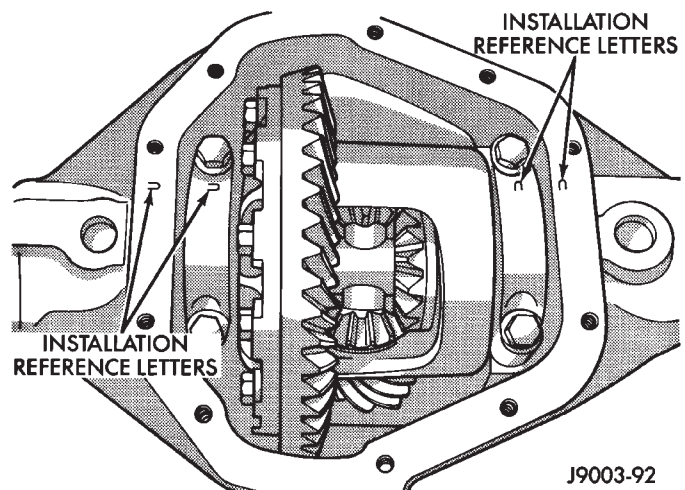
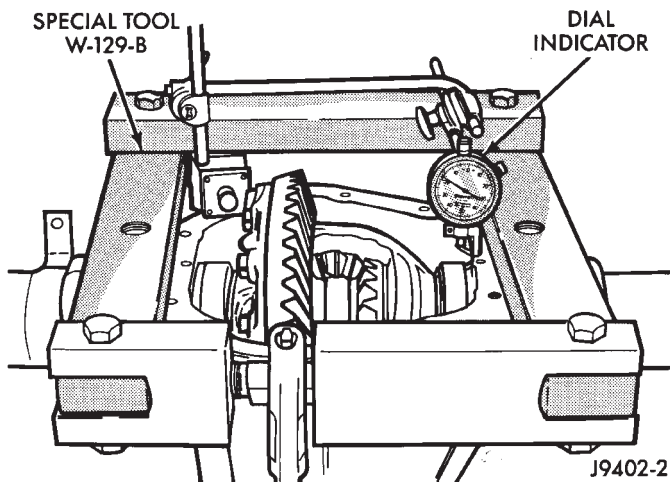
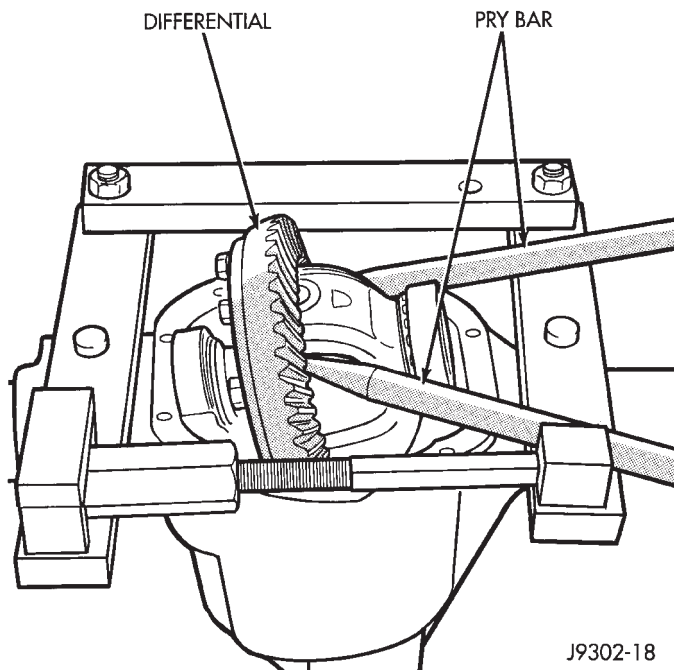

Fig. 22 Bearing Cap Identification
Fig. 23 Spread Differential Housing
Fig. 24 Differential Removal
(1) Note the installation reference letters stamped on the bearing caps and housing machined sealing surface (Fig. 22).
(2) Remove the differential bearing caps.
(3) Position Spreader W-129-B with the tool dowel pins seated in the locating holes (Fig. 23). Install the holddown clamps and tighten the tool turnbuckle finger-tight.
(5) Separate the housing enough to remove the case from the housing. Measure the distance with the dial indicator (Fig. 23).
(6) Remove the dial indicator.
(7) Pry the differential case loose from the housing. To prevent damage, pivot on housing with the end of the pry bar against spreader (Fig. 24).